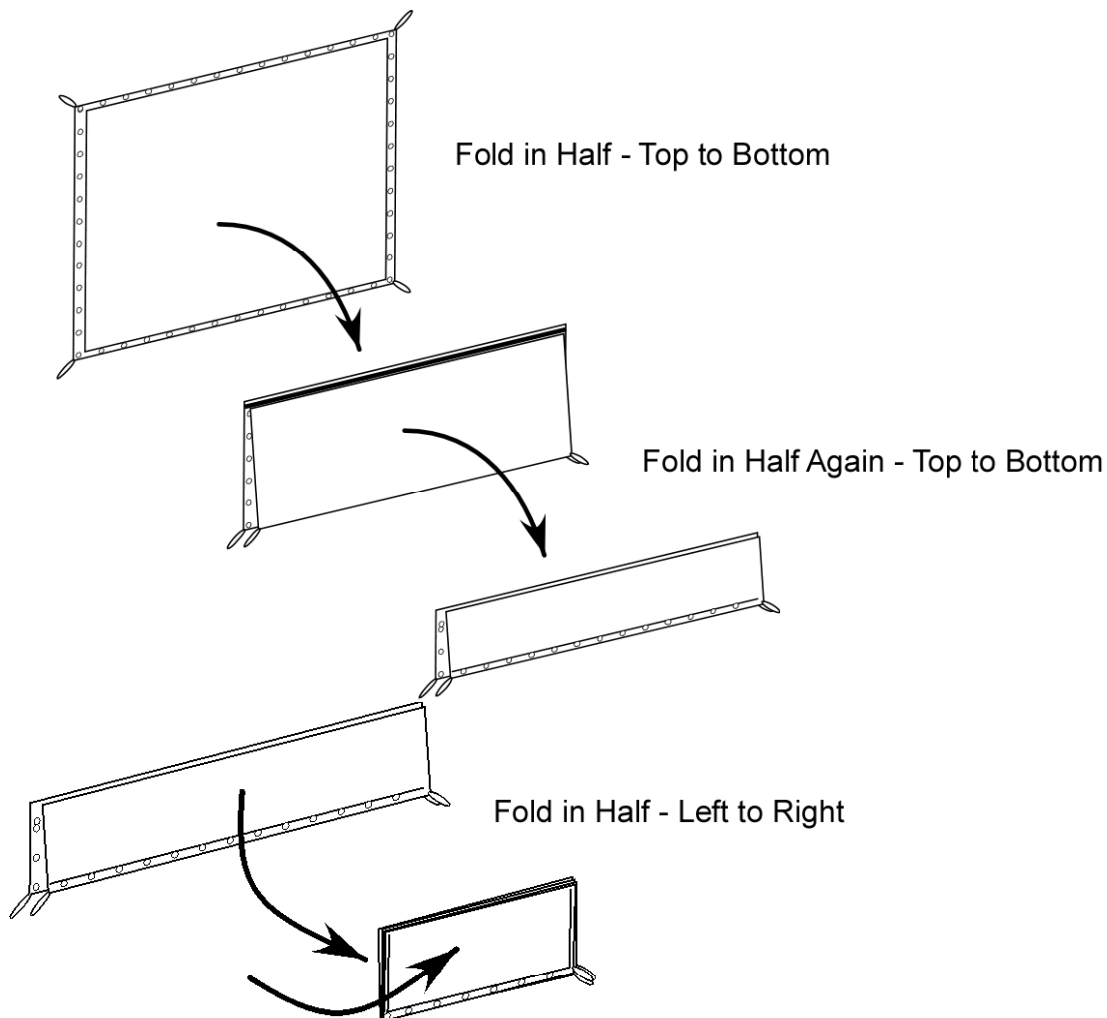

Figure 14. Folding Screen.
38. With the white surface facing up, fold the screen in half from top to bottom as shown in Figure 14. Make sure the screen never comes in contact with the black binding, grommets or snap buttons. Please note that for this to happen, one must make sure all folds subsequent to the first fold stop short of black binding material as illustrated below.